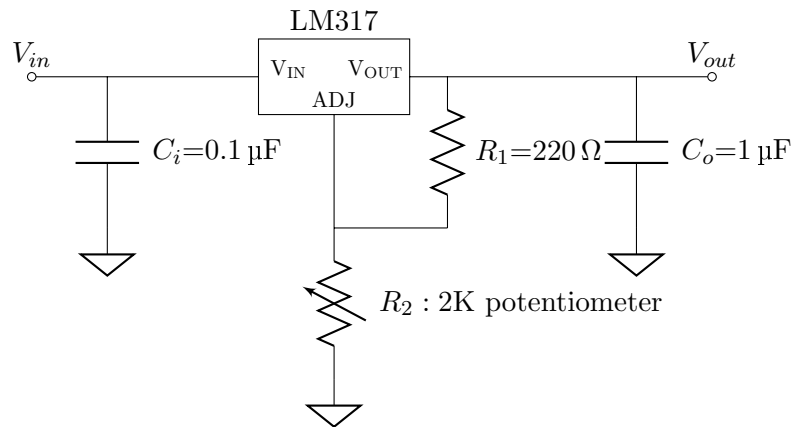

Figure 6: Schematic of the voltage regulator circuit using LM317.
1. Using Fig. 6 as a reference, build the regulator circuit on the breadboard. You should be able to find the LM317 pinout diagram from its datasheet, which you find from online. *As a general suggestion, it is important to keep your circuit well laid out and keep the connecting wires as short as possible. Cut the wires to the right length if necessary.* Fig.xxx shows an example breadboard layout for the LM317 regulator circuit in this lab.